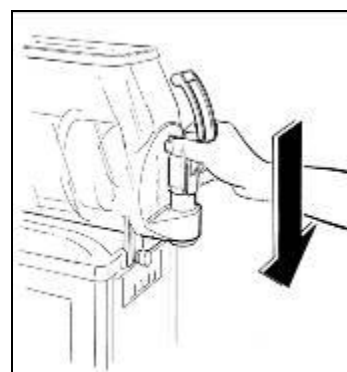

Fig. 18
- **R**e-insert the tap (fig.18) spreading Vaseline on the o-rings to facilitate sliding the tap in its seat until completely inserted.